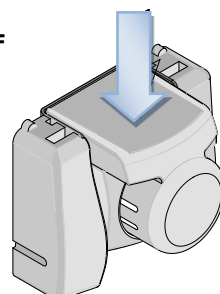

Figure 7B
5. Press the center of the locator down as far as it will go as shown in Figure 7B.
6. Holding onto the lower part of the locator with your thumb and index finger, insert the locator's top hooks (2) into the hand tool top slots.